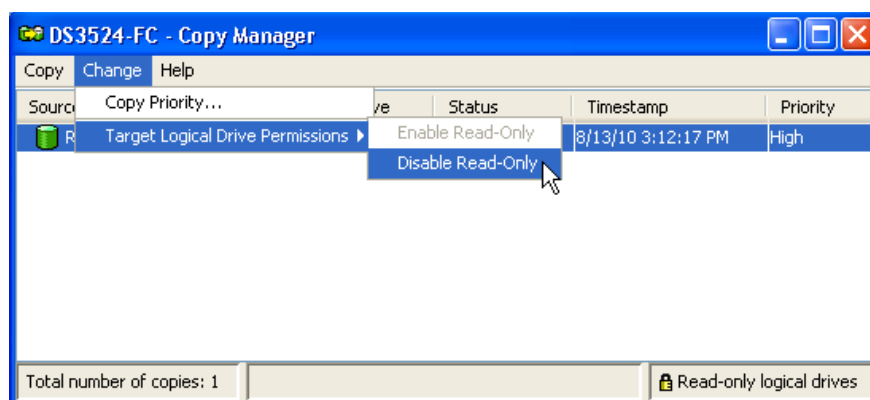

Figure 3-19 Copy Manager: Disable Read-Only menu
3. Select **Change** → **Target Logical Drive Permissions** → **Disable Read-Only**. (Or, right-click and select **Disable Read-Only** from the pop-up menu. See Figure 3-19.